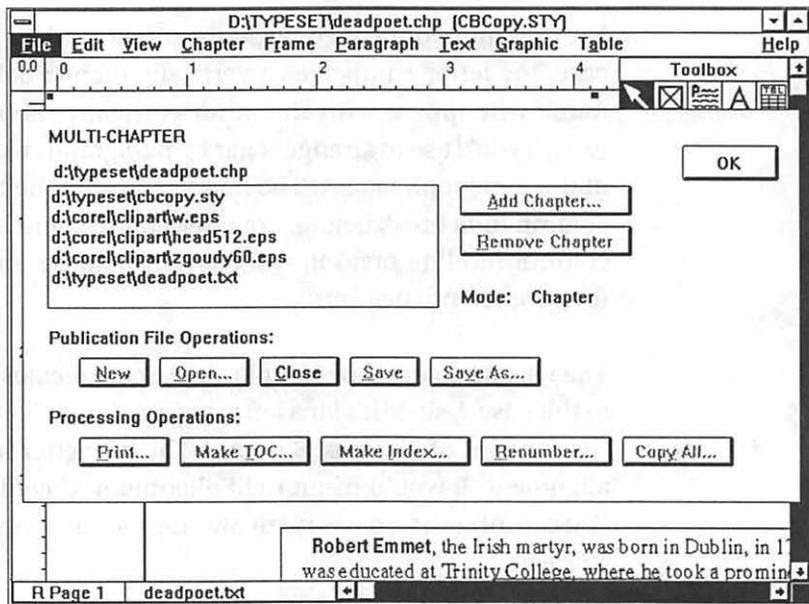

FIGURE 4-53 Use Ventura's *Manage Publication* command in the *Windows Edition* to find all of a chapter's files.
2. You'll get a list of all of that chapter's files (Figure 4-53): text, graphic, and style sheet files. The list will include the complete path and drive specification for each file, enabling you to find any file easily.